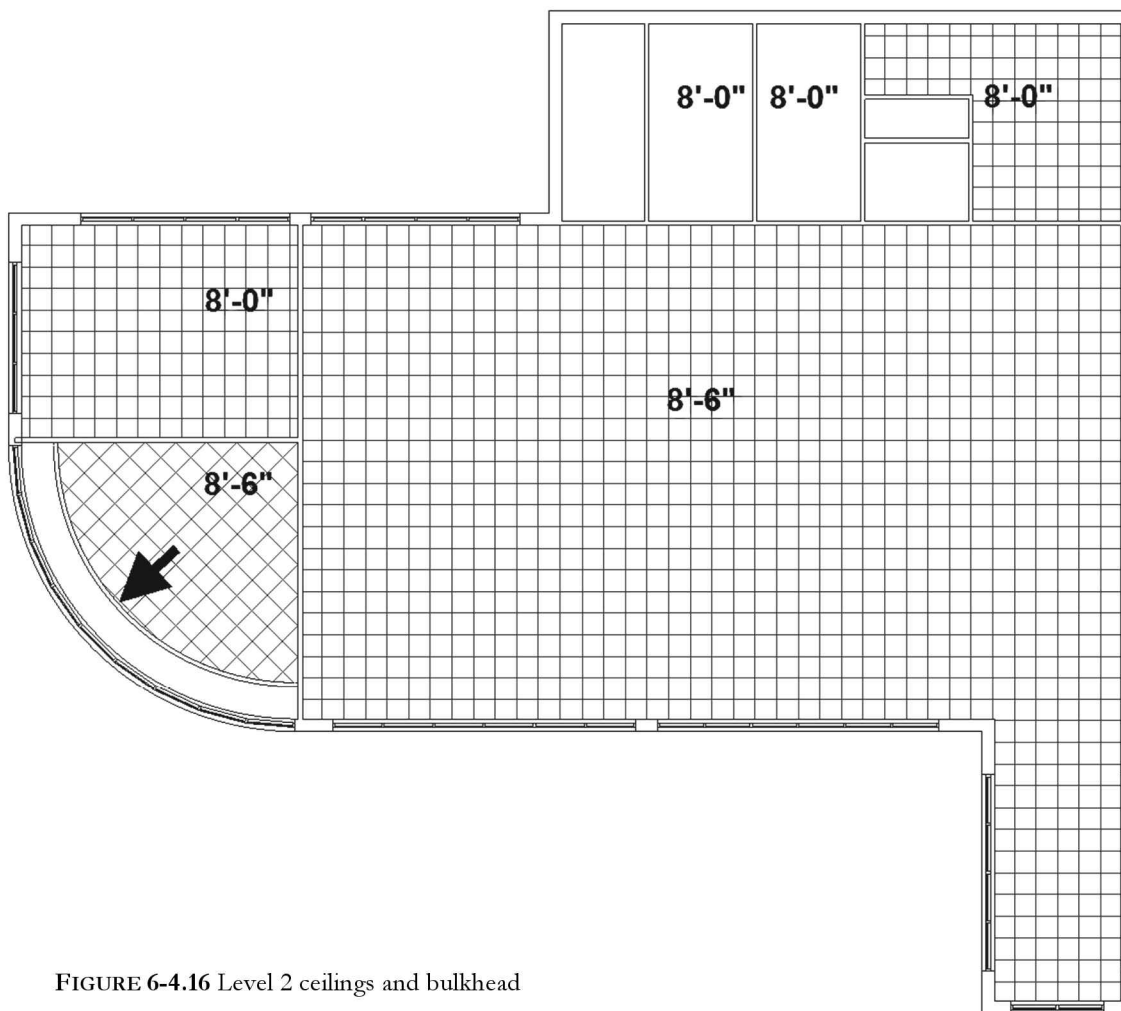

FIGURE 6-4.16 Level 2 ceilings and bulkhead
39. Using the techniques previously covered, add the Level 2 ceilings per the information provided in Figure 6-4.16.